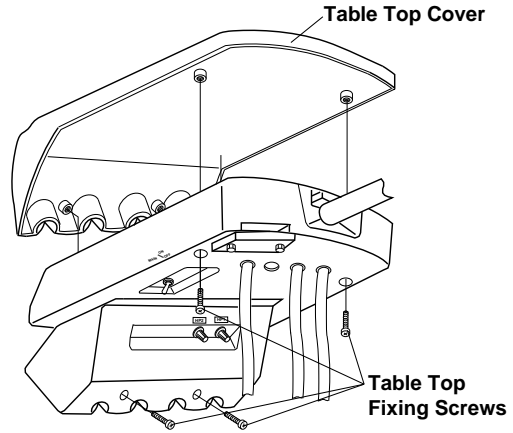

Fig. 3-5 Removing Table Top Cover
B. 3-Way Syringe Flow Control Screws (Fig.3-5)
(3) Removing Table Top (Fig.3-5)